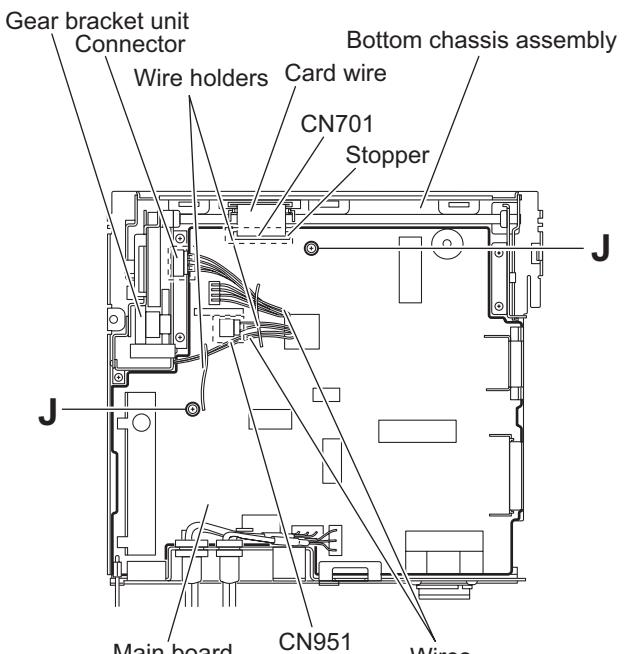

Fig.12
- From the top side of the bottom chassis assembly, remove the two screws **J** attaching the main board to the bottom chassis assembly. (See Fig.12.)
- Release the stopper of the connector CN701 on the main board in an upward direction, disconnect the card wire from the connector CN701. (See Fig.12.)
- Disconnect the wire from the connector of the gear bracket unit. (See Fig.12.)
- Disconnect the wire from the connector CN951 on the main board. (See Fig.12.)